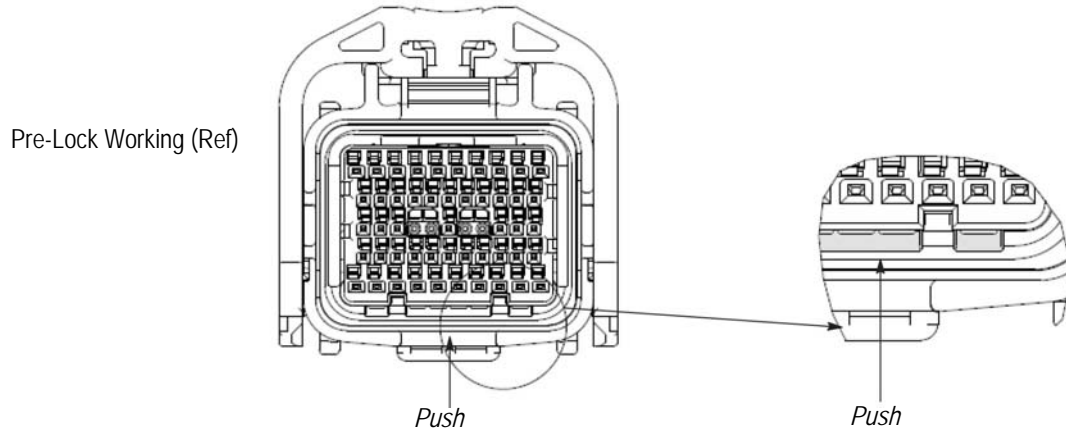

Figure 8
Push the retainer by finger or tool to the pre-lock position. See Figure 8.
1. Confirm that the retainers are in the pre-lock condition. If they are in the final condition, it will be necessary to move them to the pre-lock condition. See Figure 8.